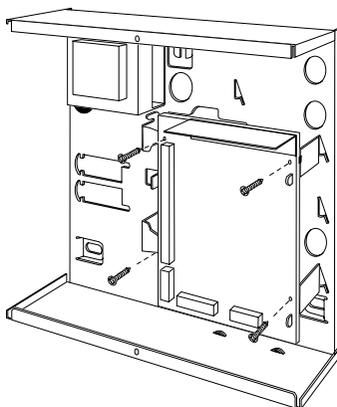

Figure 22. Fitting Control Unit PCB
5. Re-fit the PCB to the support pillars. Secure the PCB to the support pillars with the screws provided (Figure 22). Make sure that the bottom left corner of the PCB is seated on its support pillar.